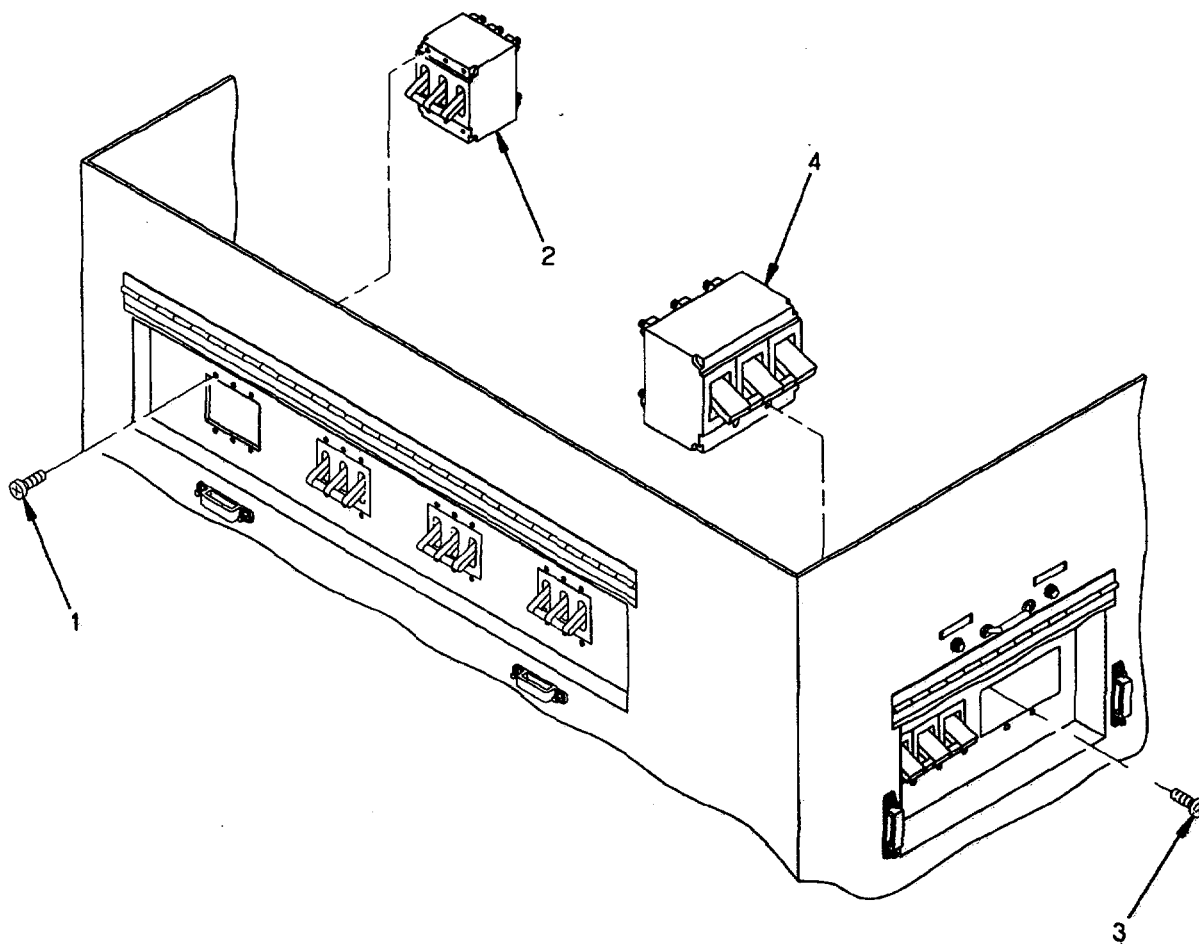

Figure 4-9. Circuit Breaker/Switch Replacement
1. Tag wires on circuit breaker(s) (2, figure 4-9) or switch (4) terminals and remove.
2. Remove six screws (1) securing the circuit breaker(s) (2) to the switch box or four screws (3) securing the input switch (4).